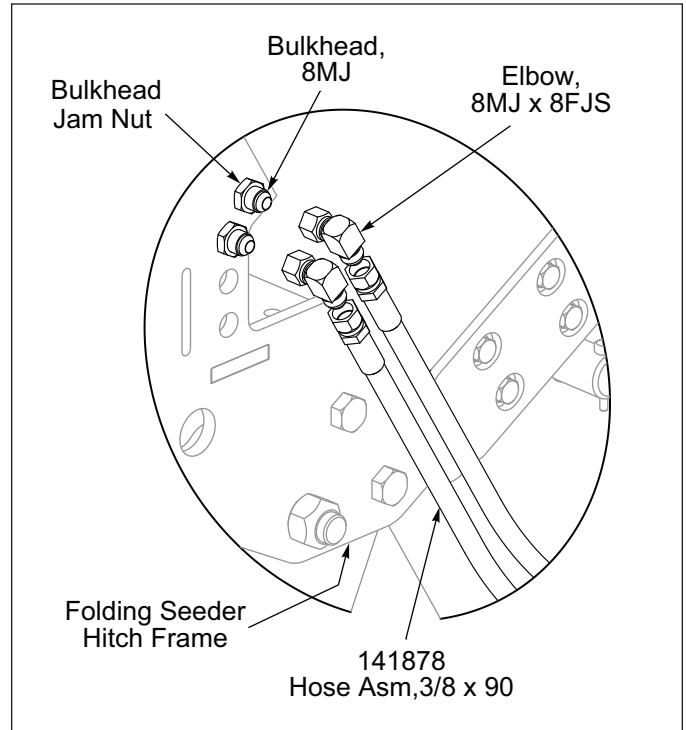

Figure 2-34: Marker Bulkhead
6. At the front of the Folding Seeder Hitch, pull the 3/8 x 312 Hose Assemblies 90 degree hose ends out of the RH side opening, enough to install the straight bulkhead fitting with the Jam Nut to the outside. **See Figure 2-34.** Remove each Bulkhead Fitting Jam Nut and insert the Bulkheads into the top two holes of the